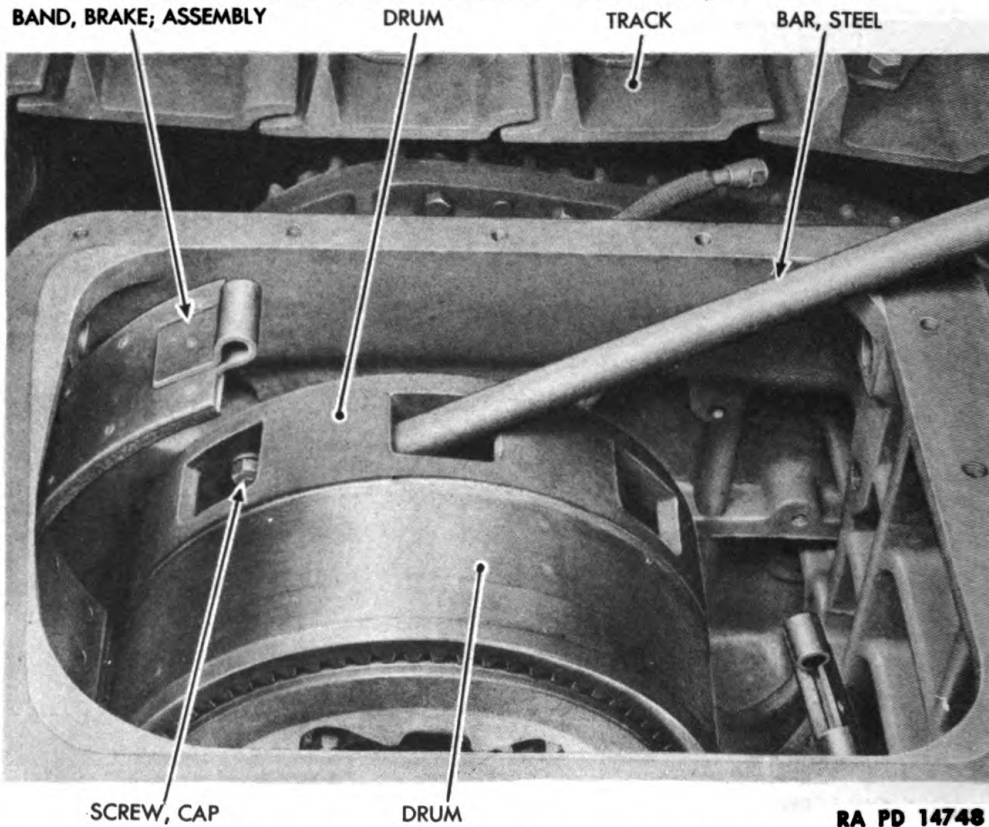

Figure 96 — Moving Drum for Access to Drum Cap Screws
(15) DISCONNECT DRUM FROM SPROCKET DRIVE PINION SHAFT (fig. 96).